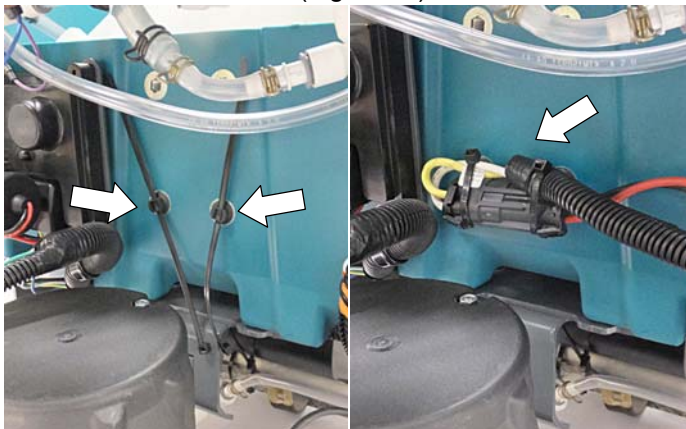

Fig. 13
14. Install two cable-tie clips into the two machine inserts as shown. Secure the motor harness connector with cable-ties as shown (Figure 13).